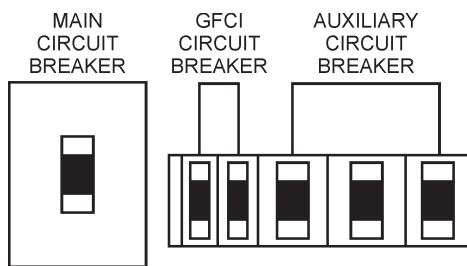

Figure 35. Main, Aux. and GFCI Circuit Breakers (OFF)
1. Place the **main, G.F.C.I., and aux.** circuit breakers (Figure 35) in the **OFF** position prior to starting the engine.
1. Place both the **MAIN, GFCI and LOAD** circuit breakers as shown in Figure 35 to the **OFF** position.
2. To shut-down the engine in the event of an emergency, switch the MAIN, GFCI and LOAD (Figure 35) circuit breakers to OFF position.